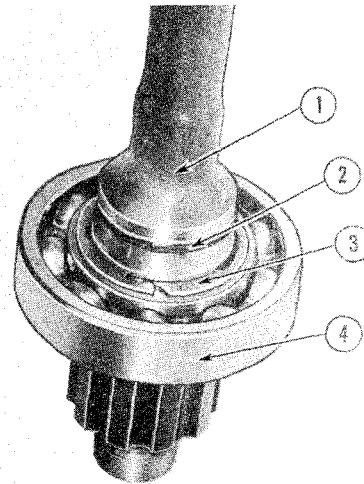

Figure 3-11
Remove and discard the hook-type seal ring (2, Fig. 3-11). With a screwdriver, open the two piece lock ring (3) and separate the halves. Remove the bearing (4) from the shaft (1).